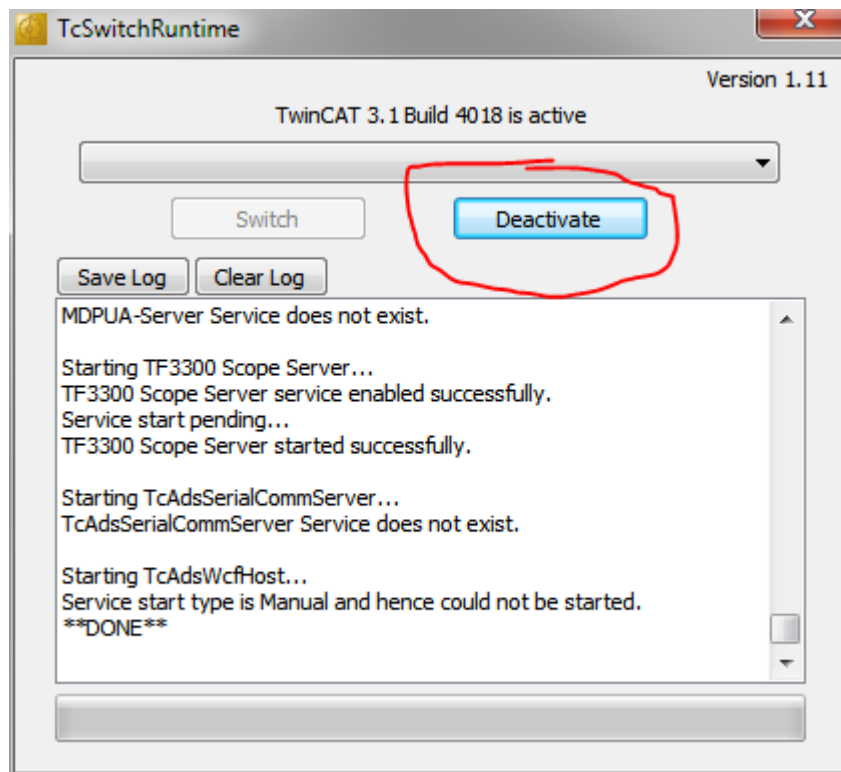

Figure 14. TwinCAT Runtime Dialog Box
2. Verify that the TCSwitch Runtime is active. The “Deactivate” button should be showing as illustrated in Figure 14. If this button reads “Activate”, click that button to start the TCSwitchRuntime.